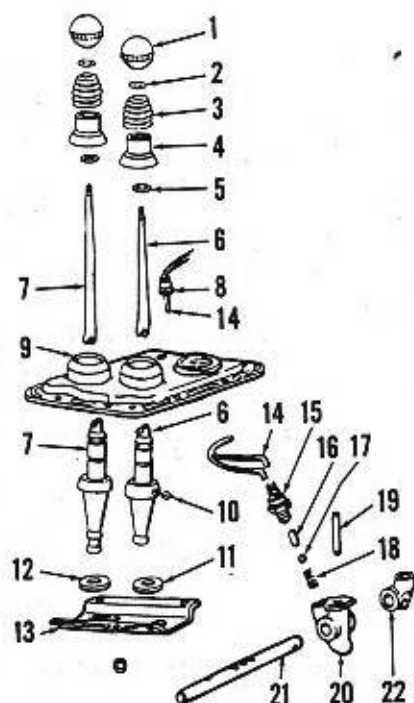
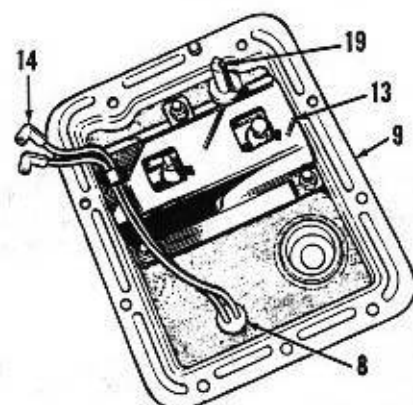

Fig. 186—Exploded view of shift cover and associated parts used on six speed transmission.
Fig. 189—Assembled view of transmission top cover as viewed from bottom. Refer to Fig. 186 for parts identification.
203. **SHIFT COVER.** To remove the shift cover (9—Fig. 186) remove attaching cap screws and lift the cover slightly. Disconnect safety switch wiring from switch unit and withdraw wire from cover unit; then lift off the cover.
To disassemble shift levers, unbolt and remove stop plate (13—Fig. 186). Remove knobs (1). Slightly depress lever spring (3) and unseat and remove snap ring (2); then withdraw lever downward out of cover unit. Assemble
Fig. 188—Installed view of safety switch, shift rails and associated parts. Positioning dowel (19) is pressed into top cover and enters locating hole in retainer (20). Refer to Fig. 186 for parts identification and to Fig. 189 for assembled view of cover.